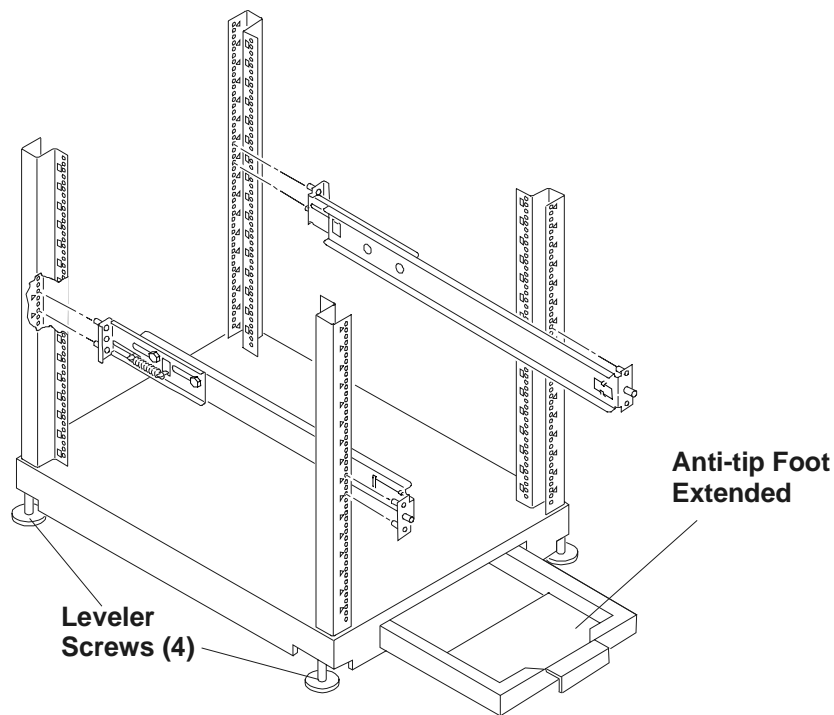

Figure 13-4. Mounting Outer-Rails to Columns
See Figure 13-4 for the anti-tip foot location.
2. Lower the leveler screws on the rack's lower four corners to make firm contact with the floor. See Figure 13-4.
3. Align the left outer-rail assembly to the left front and rear columns as shown in Figure 13-4.
To prevent the rack from rolling while you mount the HP Netserver, ensure the leveler screws on the rack's lower four corners are in firm contact with the floor. See Figure 13-4.
1. Lower the leveler screws on the rack's lower four corners to make firm contact with the floor. See Figure 13-4.
2. Ensure you have extended the anti-tip foot from the rack before continuing this procedure. See Figure 13-4.